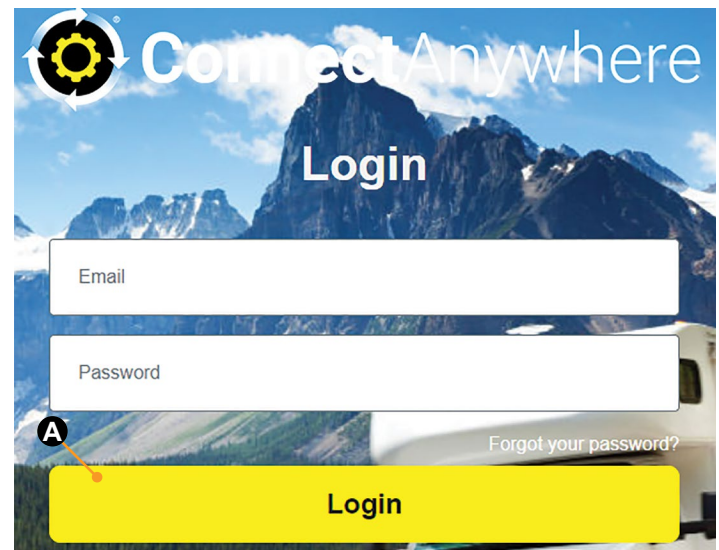

Fig.27
B. Enter LCI Customer Community user credentials (Fig.27), then click the login button (Fig.27A).